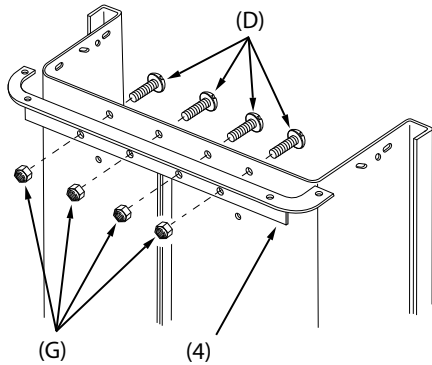

Figure 2
STEP 2 (SEE FIGURE 2): Attach the lower rear angle bracket (4) to the assembled cart body using four 5/16" x 3/4" truss head bolts (D), 5/16" nylock nuts (G) **Do Not Tighten!**